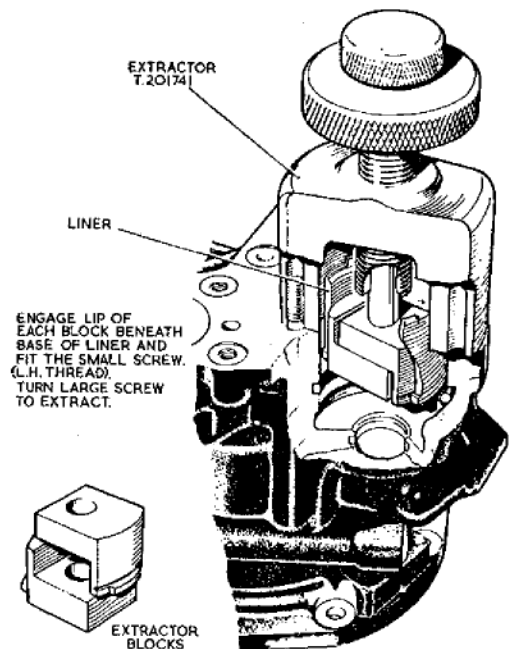

Fig. 10. Removing the servo cylinder liner
48. Extractor T.201741 (*fig. 10*) consists of two angled sections, each having a protruding lip. Place the sections within the liner bore, so that the lips of each section can be made to contact underneath the base of the liner. Mount the circular supporting piece over the cover plate studs; location is provided in this section for a large knurled setscrew (right hand thread) which is threaded through the block. This setscrew is drilled through the centre and forms a guide for a smaller, knurled setscrew (left hand thread) which passes through and engages with the two sections. With the extractor so positioned, tighten the large knurled setscrew and withdraw the liner.
49. Clear the rubber seal (90) from the control piston liner bore and the felt seal washer (89) from the piston rod bore.